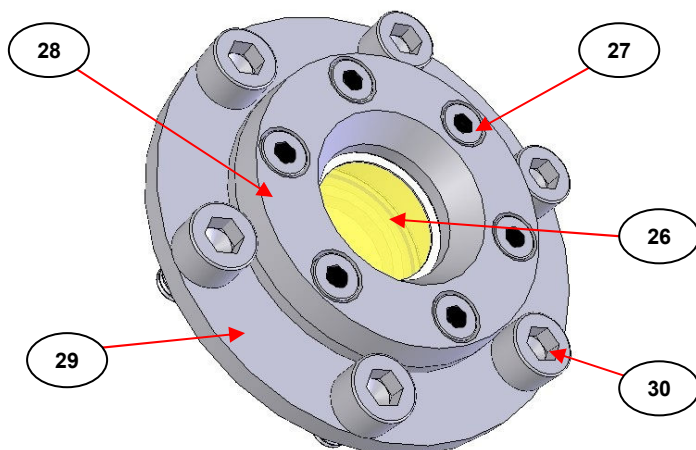

Fig 12. Pressure Certified ZnSe Window Housing Assembly (11)
The ZnSe windows themselves (26) should **never be removed** from their stainless steel housing assemblies (11). To ensure this cannot be achieved the six M4 x 10mm bolts (27) that hold the front body window housing (28) to the window mounting ring flange plates (29) are filled with a blob of black epoxy resin glue. (See Fig 12.)